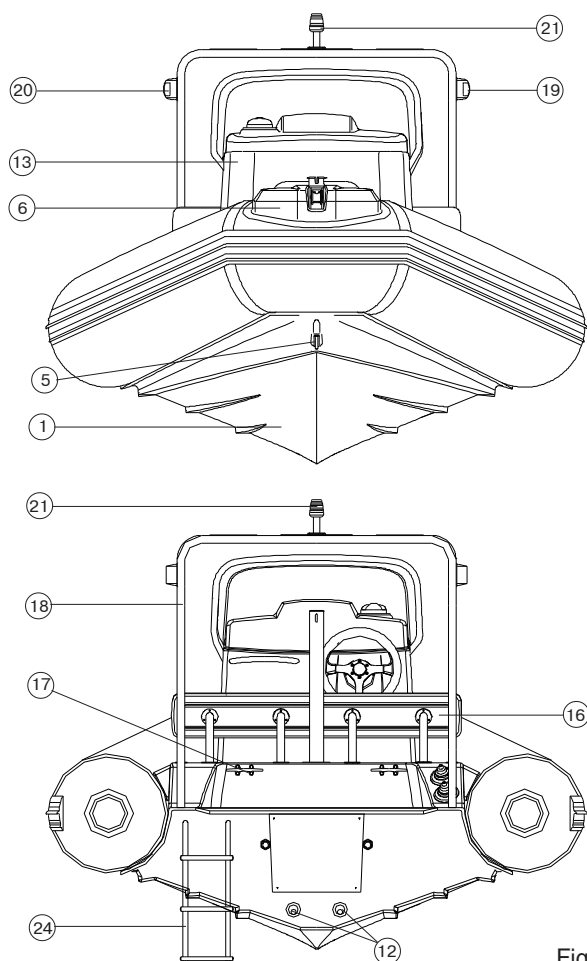

Fig.D1
The boat series "NAVIGATOR" consists of the next main components (Fig. D1):
- bow locker (1) is intended for arrangement of anchor and anchor rope or for baggage arrangement;
- stern compartment (2).
The bow locker have a direct access by hinge out the access door (18). Onto the access door of the bow locker there is a removable soft cushion (11, Fig. D1). Onto the stern compartment door there is soft seat (15, Fig. D1) and soft back (16, Fig. D1).
Also there are the following elements fitted on the tube (Fig. D1):
- doubled rubbing strake (3, Fig.D1);
- safety handles (4, Fig.D1);
- bow step-plate with a special moulded antiskid coating (6, Fig.D1).
Stainless steel arc (18, Fig.D1) is located in the stern part of the boat. Arc is equipped with anchor light (white, 21) and running lights: port (red, 19) and starboard (green, 20), (Fig. D1).